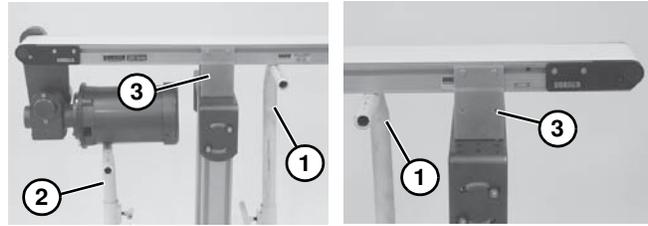
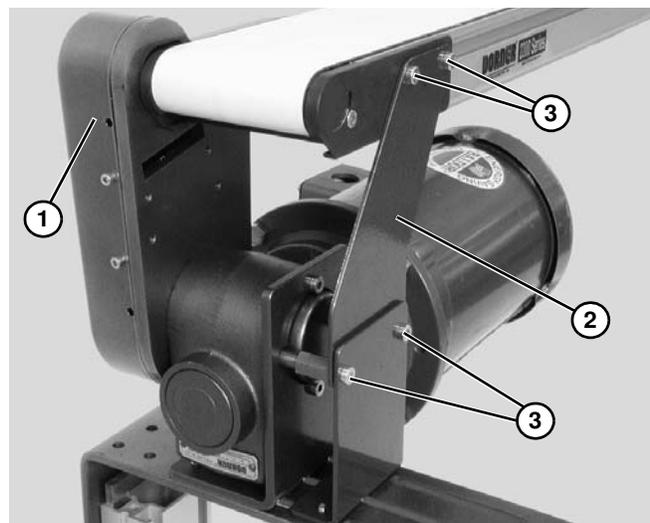

Figure 38
Figure 39
1. Place temporary support stands (**Figure 38, item 1**) at both ends of the conveyor. Place an additional support stand (**Figure 38, item 2**) under the drive motor, if equipped. See WARNING.
2. Remove mounting brackets (**Figure 38, item 3**) from one side of conveyor. (Reverse steps 3 & 4 of “Mounting Brackets” section beginning on page 21.) If equipped with heavy load drive package, remove brackets from side opposite drive cover (**Figure 39, item 1**).
3. If equipped, remove return rollers and guiding and accessories from side opposite drive cover (**Figure 39, item 1**).
4. If equipped with heavy load drive package, remove drive support bracket (**Figure 39, item 2**): Remove bracket screws (**Figure 39, item 3**) then remove bracket (**Figure 39, item 2**).